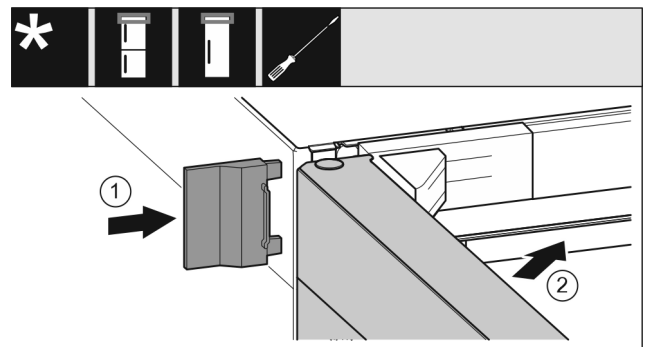

Fig. 19
- ▶ Slide on the outer cover. Fig. 19 (1)
- ▶ Close the upper door. Fig. 19 (2)